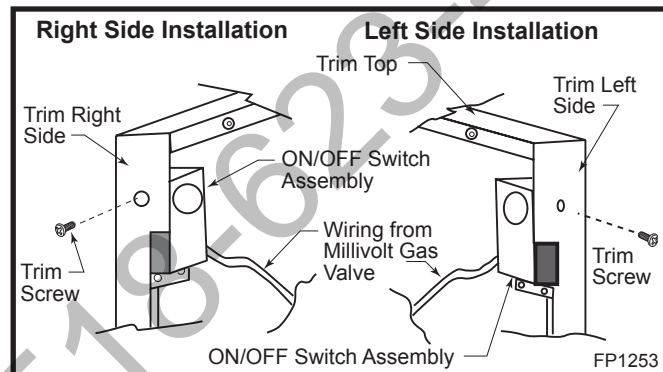

Fig. 6 Slide switch assembly between subframe and trim.
2. Slide switch assembly from the back, between sub-frame and trim, then fasten the screw. (Fig. 6)